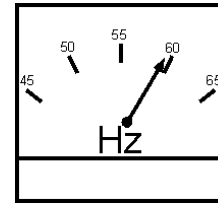

Figure 41. Frequency Meter (Hz)
10. The generator's frequency meter (Figure 41) displays the 60 cycle output frequency in **HERTZ**.